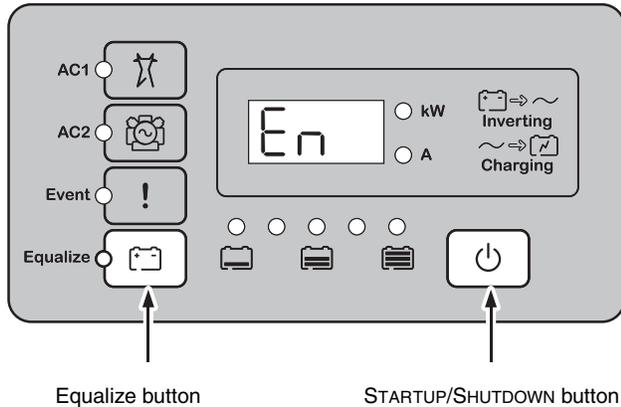

Figure 3-18 Enabled mode
- ◆ On the inverter information panel, simultaneously press the STARTUP/ SHUTDOWN button and the Equalize button. The Conext XW+ is now enabled, and E_n (enabled) is briefly displayed on the inverter information panel, as shown in Figure 3-18.